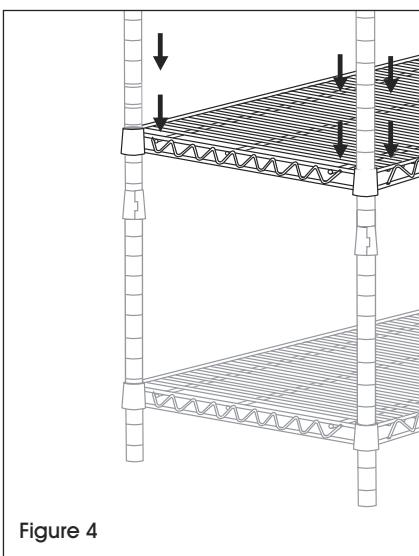

Figure 4
4. Starting at the top of the first shelf support, count 8 grooves up and snap on shelf support above that 8th groove. Repeat for remaining posts. Add and secure shelf. (See Figure 4)